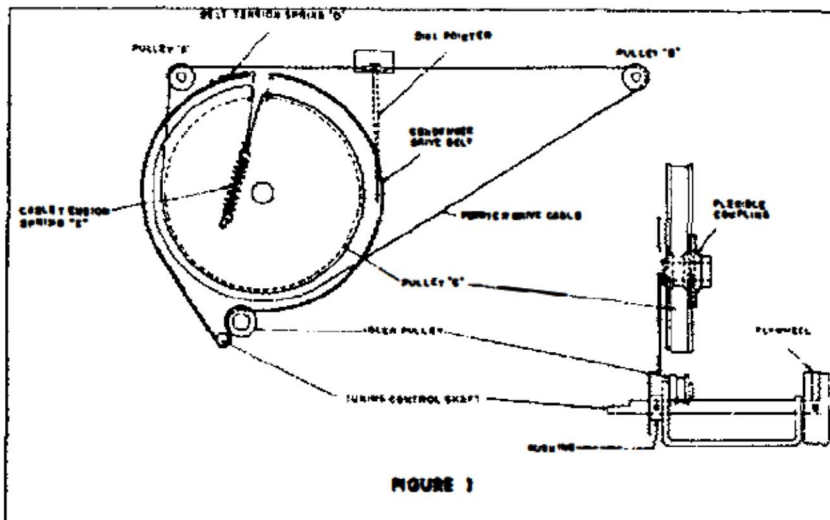

FIGURE 1
Two types of drive mechanism are used to transmit the motion from the dial tuning knob to the large pulley that is coupled to the condenser gang. These two arrangements are shown on Figures 1 and 2. The cable used to drive the dial pointer is strung the same on all CR-190A and CR-190B receivers. Separate instructions for installing a replacement belt or spring on the CR-190A or CR-190B chassis are given below.
**CR-190A Condenser Drive Belt Replacement**—Hook one end of the belt on the right hand edge of the slot in Pulley "C" so that the smooth side contacts the pulley surface. Keeping the belt near the back of the groove in Pulley "C" wrap it in a clockwise direction around that pulley (as indicated by the arrows on Figure 1) over the idler pulley and under the tuning control shaft then around the opposite side of pulley "C". One end of the belt tension spring is hooked on the free end of the belt and the other end on the left-hand side of the slot in Pulley "C", completing the operation.